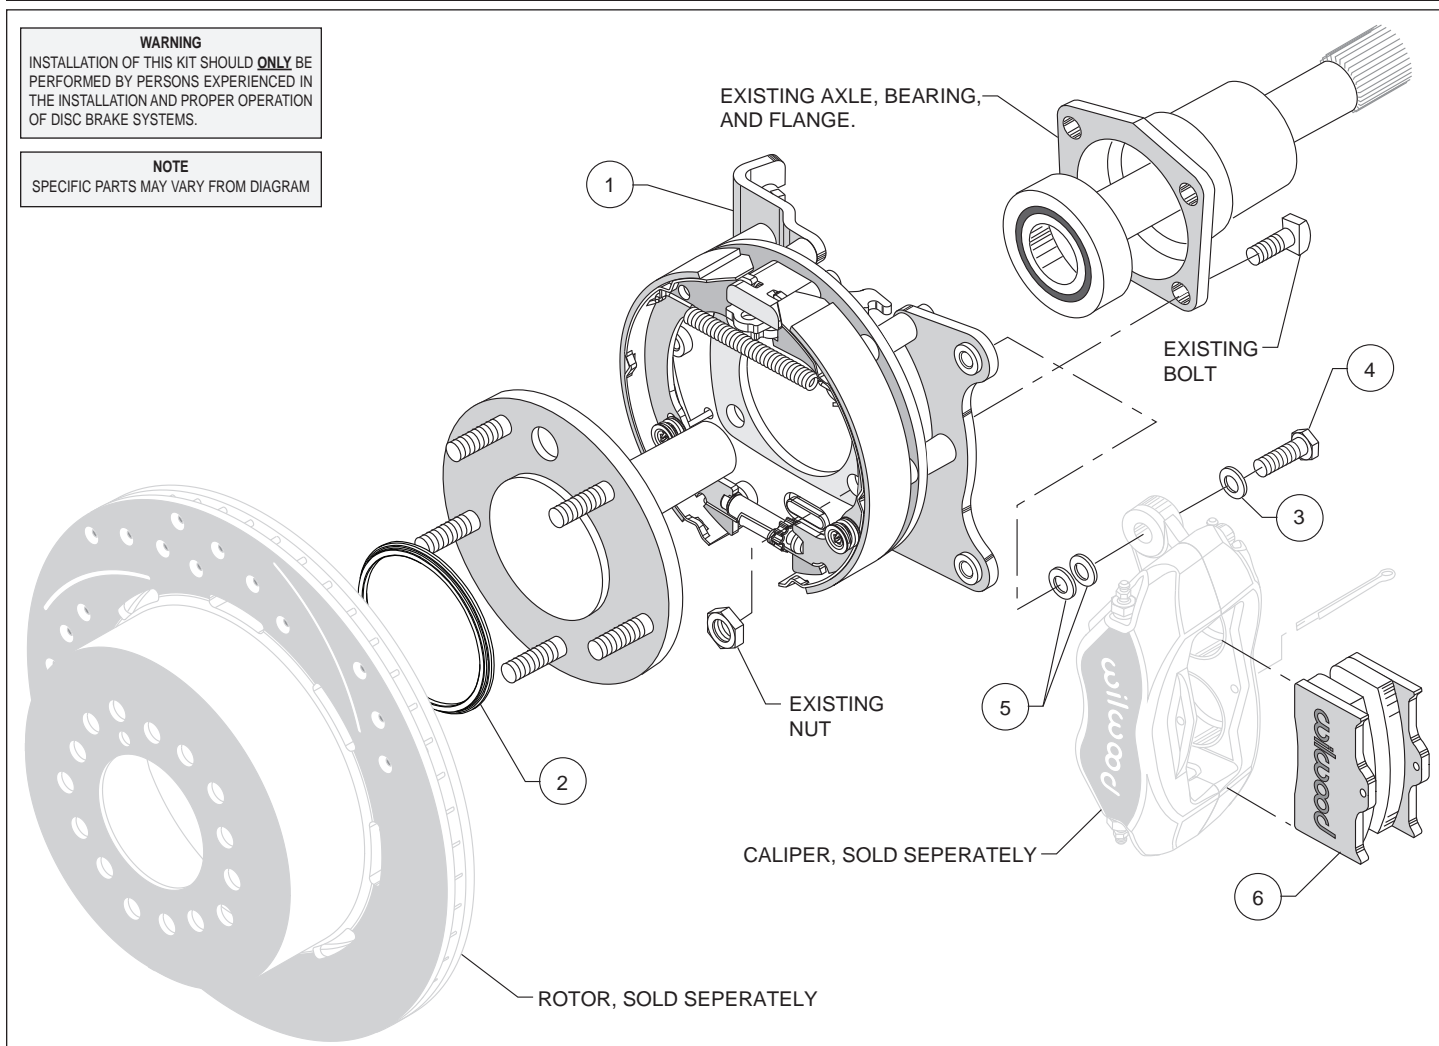
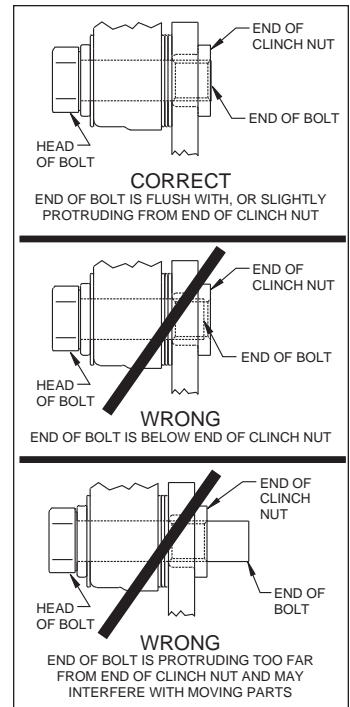

Figure 1. Typical Installation Configuration
Figure 4. Clinch Nut Engagement Diagram
**Assembly Instructions** (numbers in parenthesis refer to the parts list, and Figure 1 on the preceding pages): **CAUTION:** All mounting bolts must fully engage clinch nuts. Be sure to check that all bolts are either flush or protruding through flanged side of clinch nut after shimming, Figure 4.
- Orient the bracket assembly (1), as shown in Figure 1, and mount to the axle housing flange using the Original Equipment Manufacturer (OEM) bolts and nuts, Figure 1. Ensure that the bracket assembly backing plate fits flush against the axle housing flange. Apply red *Loctite*® 271 to the OEM bolt threads and torque to OEM specifications.
- Slide the rotor registration adapter (2) onto the axle register on the axle flange with the smaller O.D. facing outward toward the rotor/hat (sold separately), Photo 1. Align the correct hole pattern in the rotor/hat with the stud pattern on the axle flange and slide into place, Figure 1 and Photo 2. **NOTE:** The rotor/hat must fit flush against the axle flange or excessive rotor run out may result. Install three lug nuts (finger tight) to keep the rotor/hat assembly in place while continuing with the installation. **NOTE:** Some OEM and after market axles come with stud sizes larger than 0.50" diameter. Verify stud size and have a qualified machine shop drill the bolt circle of the hat/rotor to the correct stud size, if necessary.
- **NOTE:** Please reference the caution statement at the beginning of the assembly instructions. Mount the caliper (sold separately) onto the caliper mounting bracket (1) using bolts (4) and washers (3), as shown in Figure 1. Initially place two .035" thick shims (5) on each bolt between the caliper and the bracket, Photo 3. Temporarily tighten the mounting bolts and view the rotor through the top opening of the caliper. The rotor should be centered in the caliper, Photo 4. If not, adjust by adding or subtracting shims between the bracket and the caliper. Always use the same amount of shims on each of the two mounting bolts. **NOTE:** The end of each bolt must be flush with or slightly protruding from the head of the clinch nut, as shown in Figure 4. If necessary place spare shims between washer (3) and caliper mounting ear to achieve the proper clinch nut engagement. Once the caliper alignment and clinch nut engagement are correct, remove the bolts one at a time, apply red *Loctite*® 271 to bolt threads, and torque to 40 ft-lb.